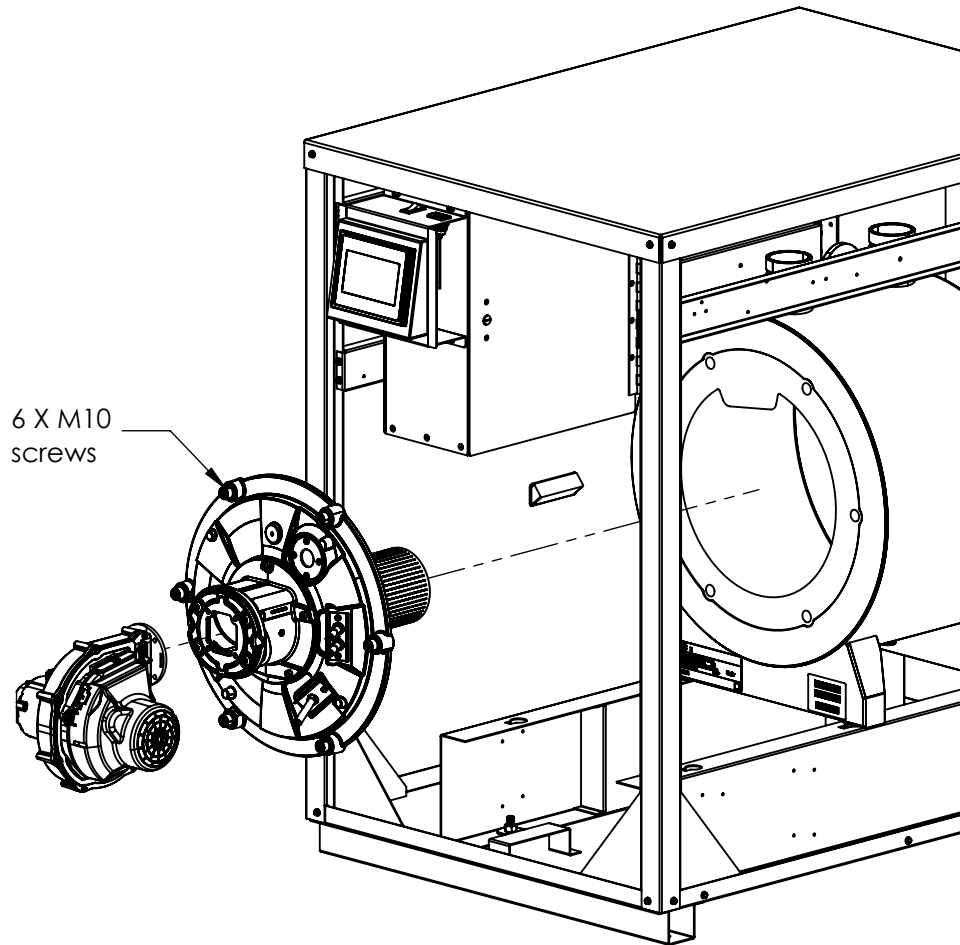

Figure 30: Burner Door Opening
- e. The burner door, blower, and mixer assembly can be pulled out of the appliance jacket as shown in Figure 30.